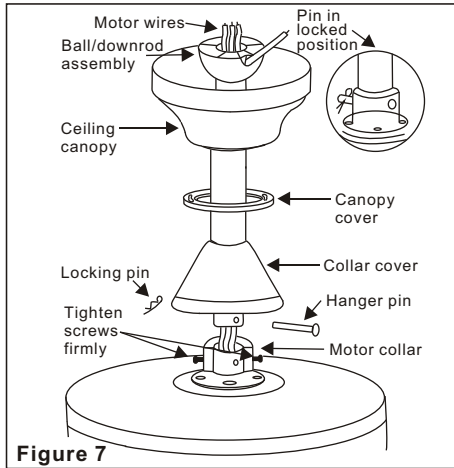

Figure 7
**Step 6.** Route wires exiting from the top of the fan motor through the collar cover, canopy cover, canopy and then through the ball / downrod.(Fig. 7)
**Step 7.** Align the holes at the bottom of the downrod with the holes in the collar on top of the motor housing (Fig.7). Carefully insert
the hanger pin through the holes in the collar and downrod. Be careful not to jam the pin against the wiring inside the downrod. Insert the locking pin through the hole near the end of the hanger pin until it snaps into its locked position, as noted in the circle inset of Fig. 7.
**Step 8.** Tighten two set screws on top of the fan motor firmly (Figure 7)